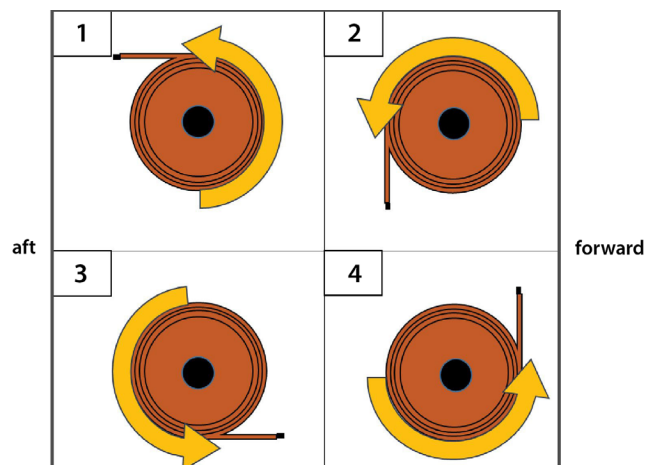

Fig.23
B. Grip and rotate the roller and canvas towards you and towards crossbars (Fig.22A). You will begin to feel the tension of the roller after about 3 to 4 full rotations (Fig.23). Continue as needed until canvas is taut.